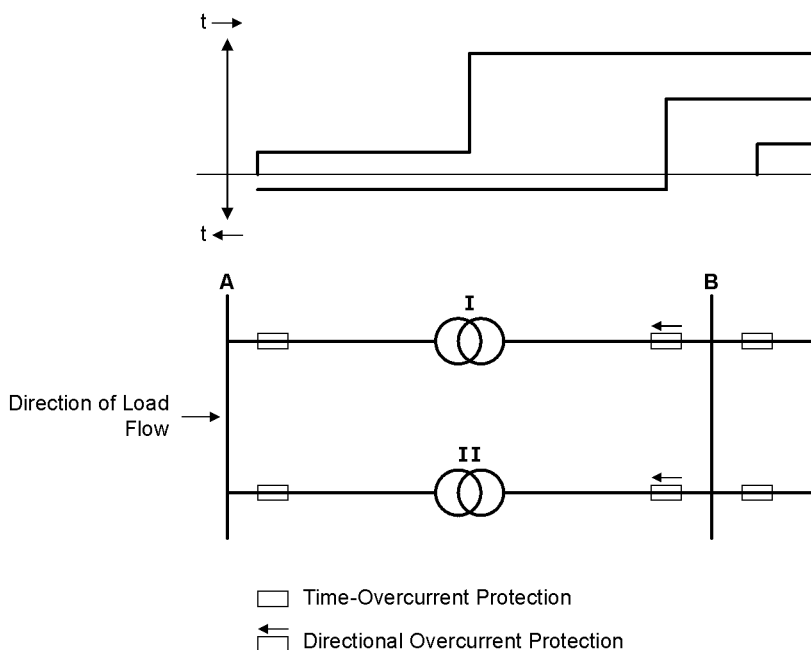

Figure 2-11 Overcurrent protection for parallel transformers
For parallel lines or transformers supplied from a single source (Figure 2-11), the second feeder (II) is opened on occurrence of a fault in the first feeder (I) if tripping of the breaker in the parallel feeder is not prevented by a directional measuring element (at B). Therefore, where indicated with an arrow (Figure 2-11), directional overcurrent protection is applied. Please ensure that the "forward" direction of the protection element is in the direction of the line (or object to be protected). This is not necessarily identical with the direction of the normal load flow, as shown in Figure 2-11.